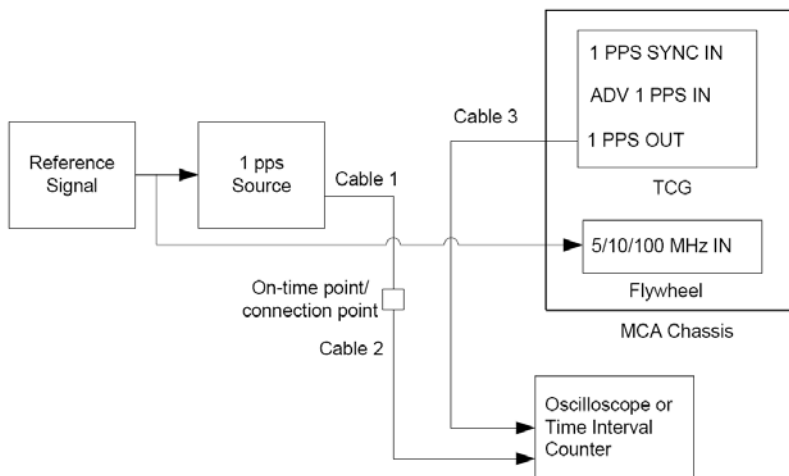

Figure 16: Connection configuration to check the 1 pps signal synchronization
Figure 16 shows the connections needed to check the 1 pps signal synchronization.
- This is Cable 1 in Figure 16.
- This is Cable 2 in Figure 16.
- This is Cable 3 in Figure 16.